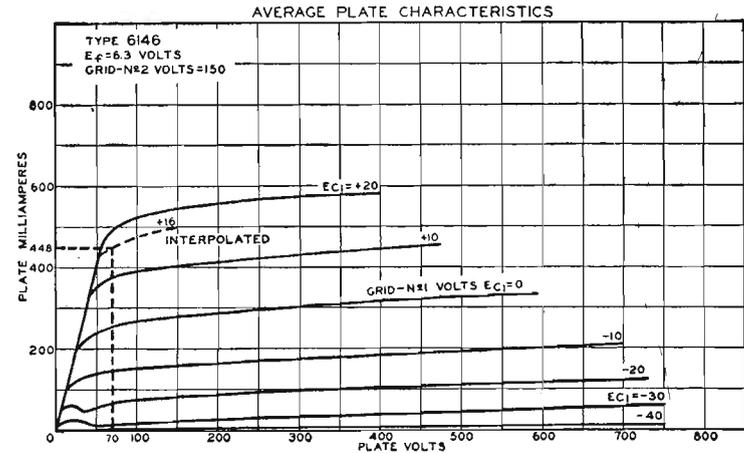

Fig. 44
(3) From the plate family for the 6146 given in Fig. 44 ($E_{c2}=150$ volts), a suitable value for effective minimum plate voltage (e_{bmin}) to the right of the "knee" is 70 volts. The corresponding peak positive grid-No.1 voltage (e_{c1max} , determined from E_{c1} curves) for a peak plate current of 448 milliamperes is approximately +16 volts.
(4) From Table I, K_2 for a conduction angle of 140 degrees is 0.862. Therefore, power output (P_o)=0.862 \times (600-70) \times 0.112=51 watts.
(5) Plate dissipation (P_p) = (600 \times 0.112) - 51 = 16.2 watts. This value is well within the maximum plate-dissipation rating of the 6146 for class C telegraphy under CCS conditions (20 watts).
(6) The dc grid-No.1 or bias voltage (E_{c1}) and peak rf grid-No.1 voltage (E_{g1}) are calculated next. (Note that bias voltage E_{c1} is not the E_{c1} shown in the characteristics curves, which represents total grid voltage, i.e., the algebraic sum of the bias E_{c1} and peak rf grid-No.1 voltage e_{c1max}). From table I, K_3 and K_4 for a conduction angle of 140 degrees are, respectively, 0.520 and 1.520. From the technical data for the 6146, mu-factor ($\mu_{E_{g1}}$) is 4.5. Therefore, $E_{c1} = -(0.520 \times 16) - \frac{1.520 \times 150}{4.5} = -3.3 - 50.6 = -58.9$, or approximately -59 volts.
(7) Peak rf grid-No.1 voltage (E_{g1}) = -(-59) + 16 = 75 volts.
(8) The next step is to determine dc grid-No.1 current (I_{c1}). From the grid-No.1 average characteristics curves shown in the tube data ($E_{c2} = 150$ volts), for e_{bmin} of 70 volts and e_{c1max} of +16 volts, peak grid-No.1 current (i_{c1max}) = 28 milliamperes.